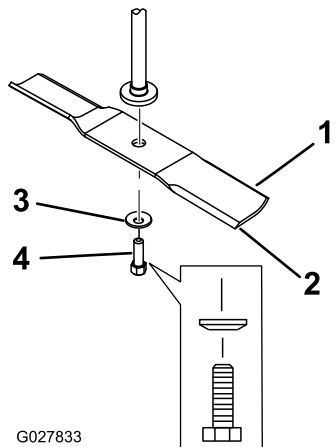

**Figure 54**
2. Remove the blade stiffener (32-inch decks only), blade bolt, the curved washer, and the blade from the spindle shaft (Figure 54 and Figure 55).